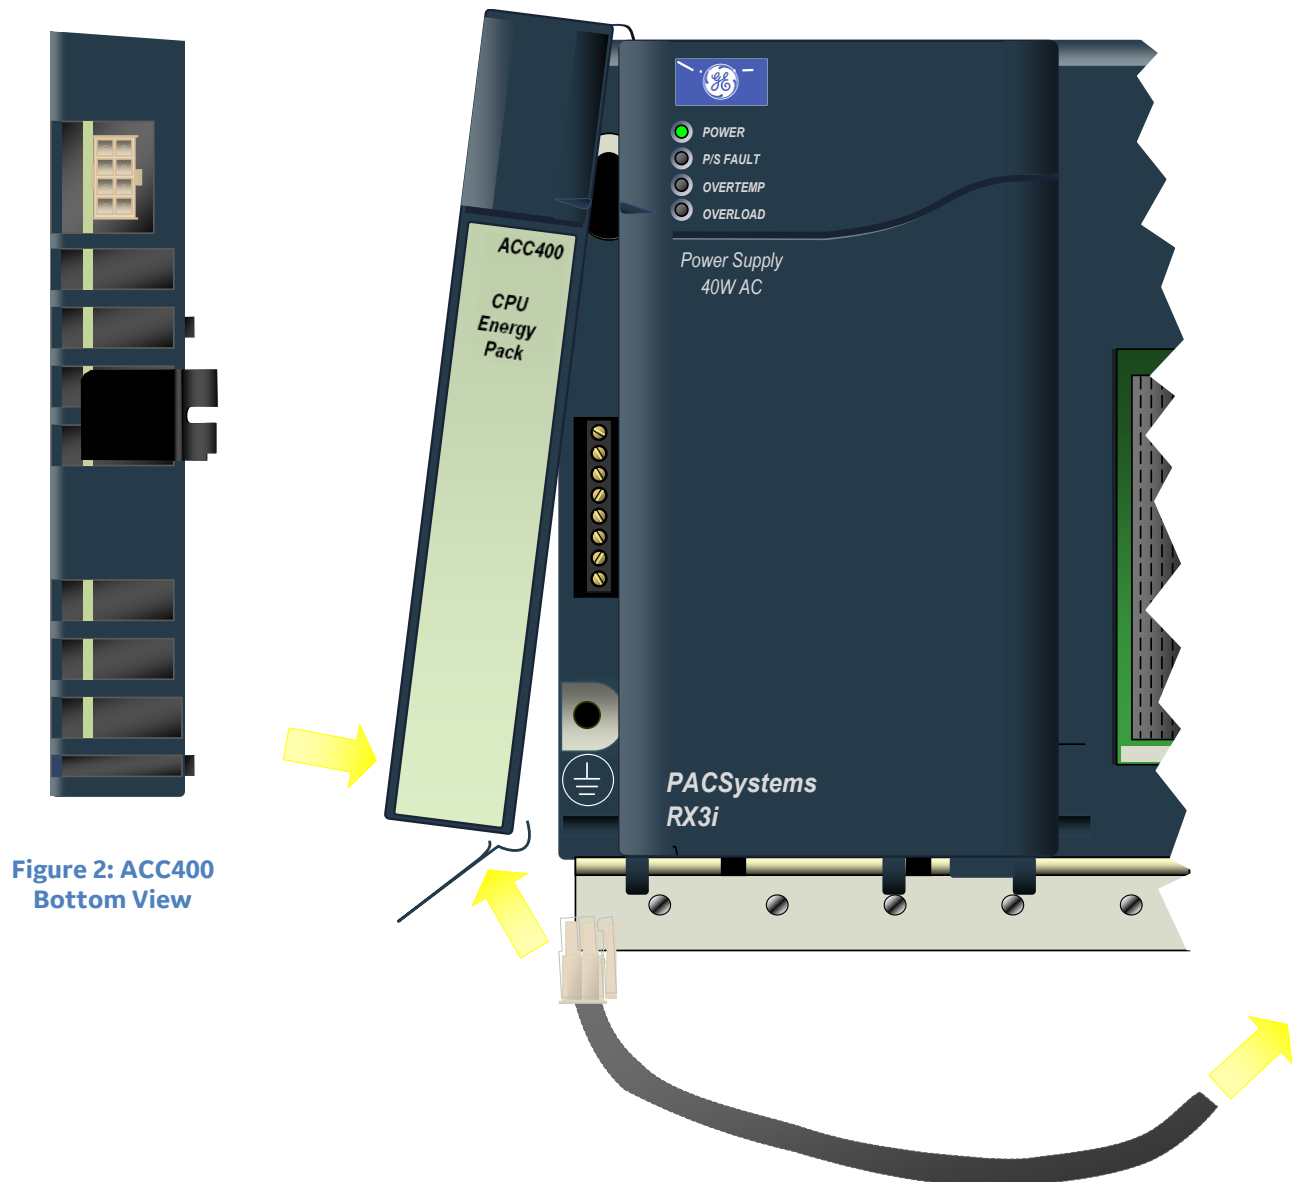

Figure 3: Installation of ACC400 Energy Pack: Connect to CPU via Cable IC695CBL001
1. Engage the top mounting hooks on the frame of the Energy Pack module as shown in Figure 3.